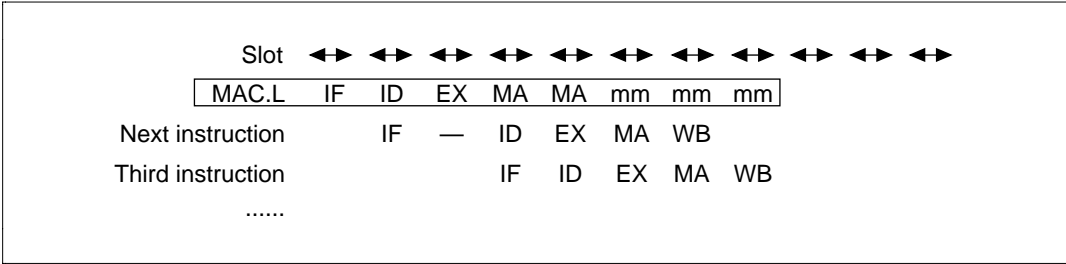

Figure 10-30 Multiply/Accumulate Instruction Pipeline
The pipeline has eight stages*: IF, ID, EX, MA, MA, mm, mm, and mm (figure 10-30). The second MA reads the memory and accesses the multiplier. The mm indicates that the multiplier is operating. The mm operates for three cycles after the final MA ends, regardless of slot. The ID of the instruction after the MAC.L instruction is stalled for one slot. The two MAs of the MAC.L instruction, when they contend with IF, split the slots as described in section 10.2.1, Contention between Instruction Fetch (IF) and Memory Access (MA).